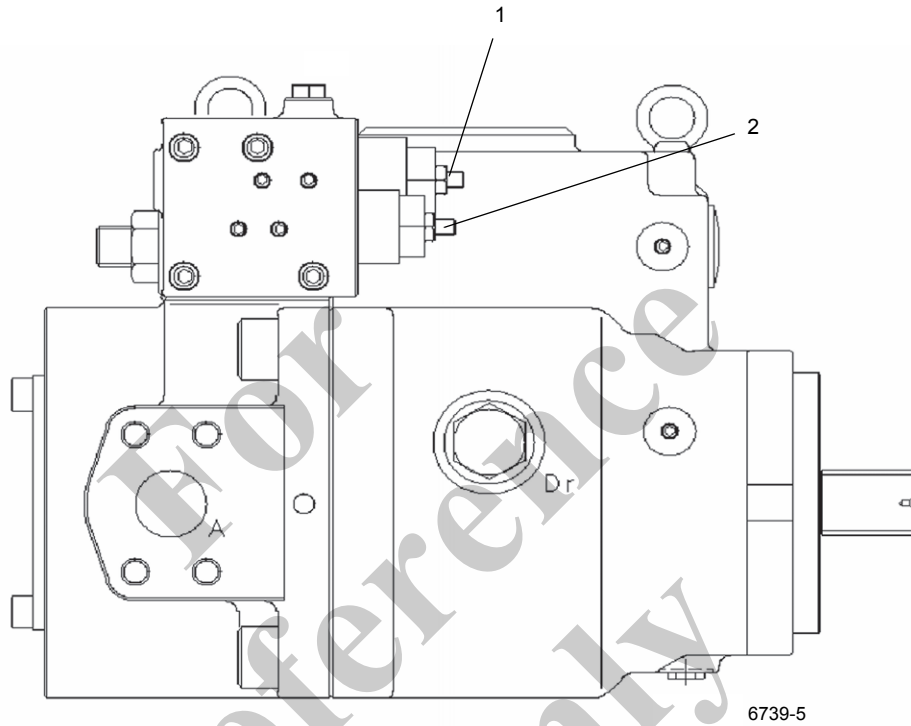

FIGURE 2-13
1. With the engine off, discharge all of the pressurized oil stored in the accumulators by depressing the service brake pedal on the cab floor 4-6 times. Remove the gas valve guard and cap on the accumulator (Figure 2-13)
2. Before attaching the gas charging assembly (Figure 2-13) onto the gas valve, back the gas chuck "T" handle all the way out (counterclockwise).
6. If the pressure is  $5.5 +0.4, -0$  MPa (800 +50, -0 psi), remove the charging valve assembly by turning the "T" handle all the way out on the gas chuck and then opening the bleed valve (Figure 2-13).